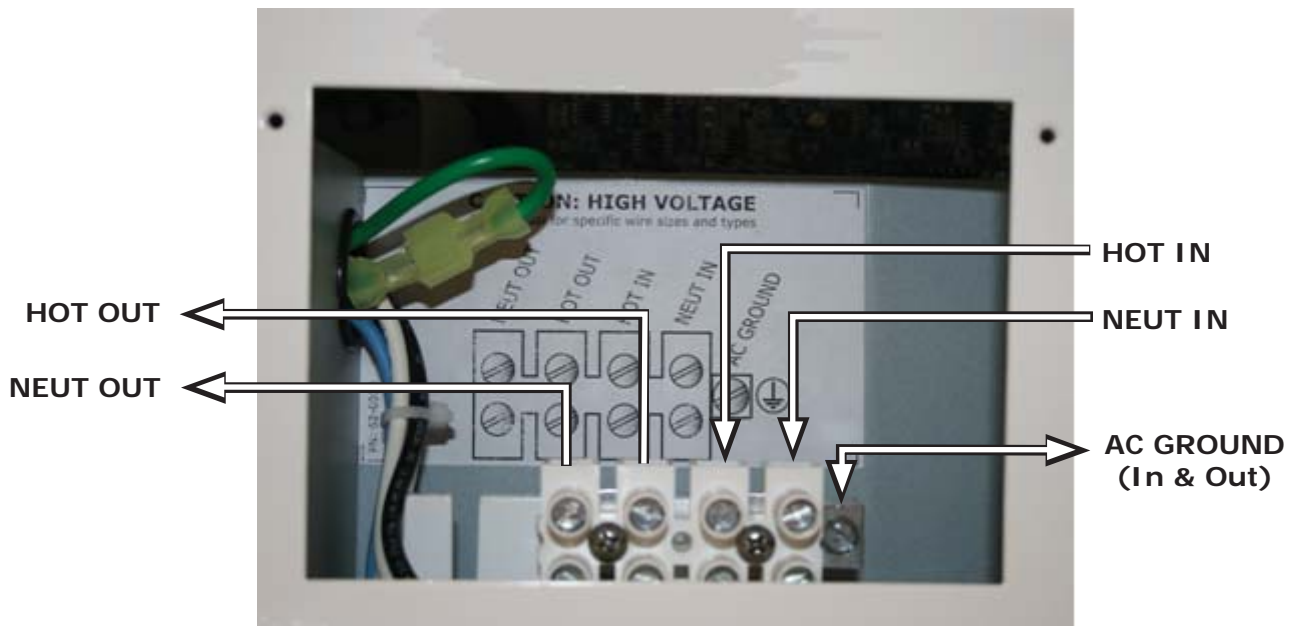

Figure 2-10, AC Terminal Block
1. Remove the two Phillips screws on the AC Access Cover (see Figure 1-3, Item 15) to access the internal AC Terminal Block (see Figure 2-10).
AC Side - Where the AC output from the inverter is connected to an AC load center, there should be an equipment grounding conductor connected between the inverter case and the grounding point in the AC load center. The AC equipment grounding conductor (EGC-AC) is sized per Table 2-4, and is connected to the inverter's AC equipment grounding terminal as shown in Figure 2-10.